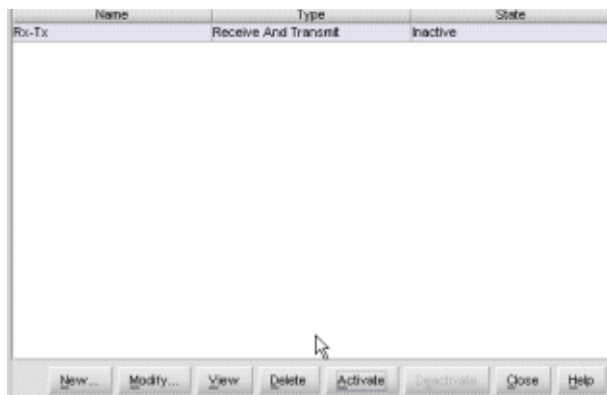

Figure 53: Configure Threshold Alerts dialog box
1. At the **Hardware View** page, choose **Configure > Threshold Alerts**. The Configure Threshold Alerts dialog box displays, as shown in Figure 53.